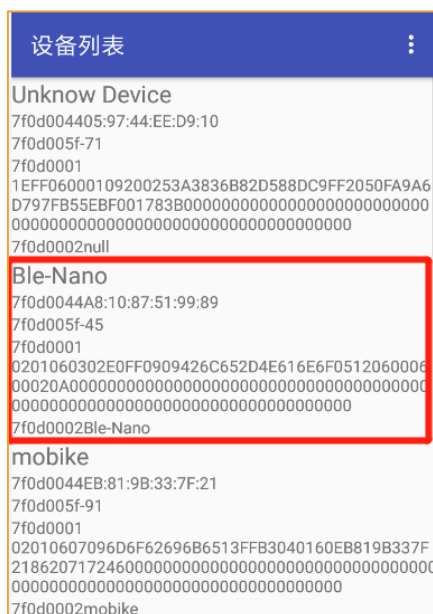

图 1.13
- 3) Install ble_tool.apk on the phone and open the test APP. The interface is shown in figure 1.13. Find the corresponding bluetooth name (BLE-Uno) and click to connect. After connection, as shown in figure 1.14, four options will appear to test different functions, respectively. Because here we only test whether bluetooth can send and receive data normally, so we select SK Service and select SK_KEYPRESSED as shown in figure 1.14 and 1.15